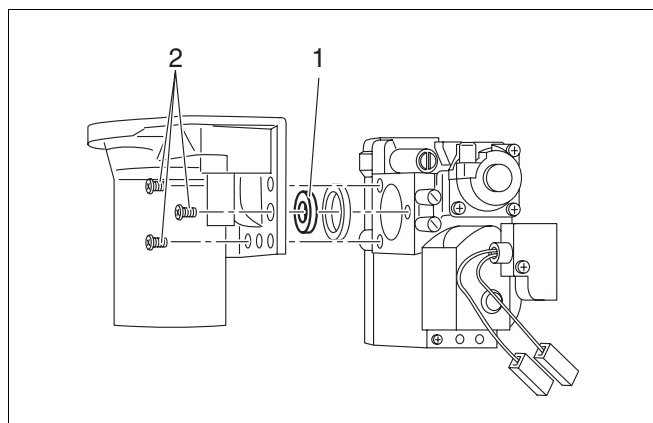

Fig. 80 Replacing the gas burner fitting on the 600 Series:
- Loosen the three screws (fig. 80).